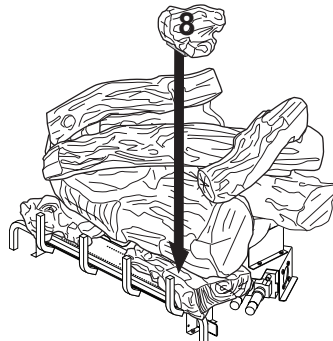

Figure 37 - Installing Log #8
8. Place small front log (#8) into slot on right bottom log (#3) as shown in Figure 37.